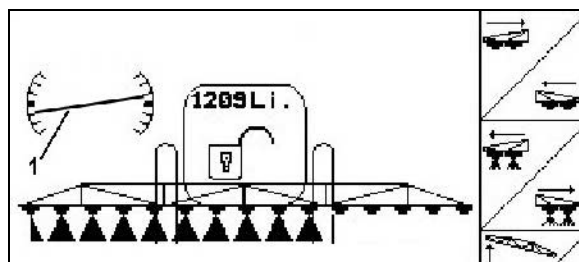

Fig. 87
- In the operation menu the symbol tilt adjustment (Fig. 87/1) shows the mirrored sprayer boom tilt. Now the right hand side sprayer boom is lifted.